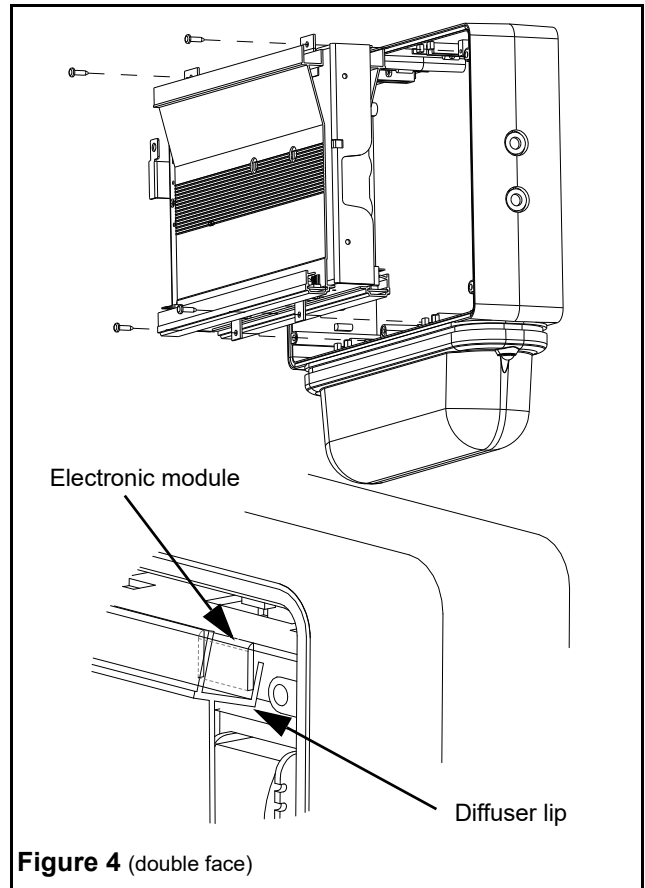

Figure 4 (double face)
- k. For double face models: Before re-installing the electronic module, you must first re-install the diffuser (10) by clipping the top section to the electronic module and then screwing the bottom section (see fig. 4).